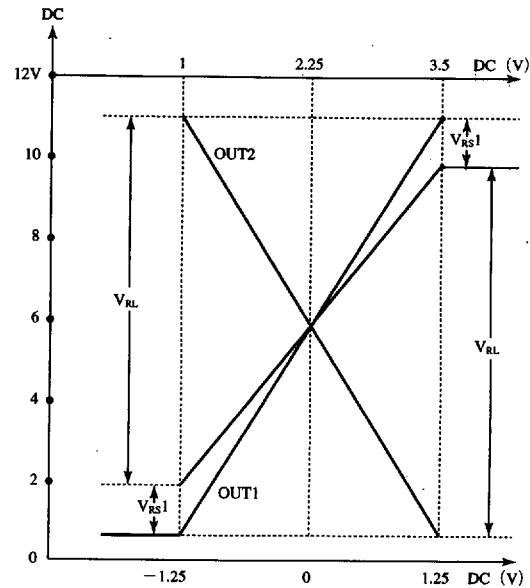

Fig.6
(9) Image illustration of the input and output DC characteristics
Fig.6 is the input and output characteristic chart, under the following condition ; $V_{CC}=12V$, $R_S=2\Omega$, $VCM (RL)=15\Omega$ $gm=0.5$ (A/V).